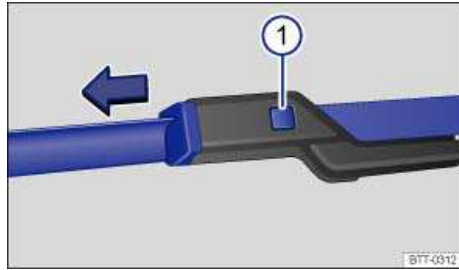

Fig. 147 Changing the windshield wiper blades.
- Press and hold the release button ⇒ fig. 147 (1).